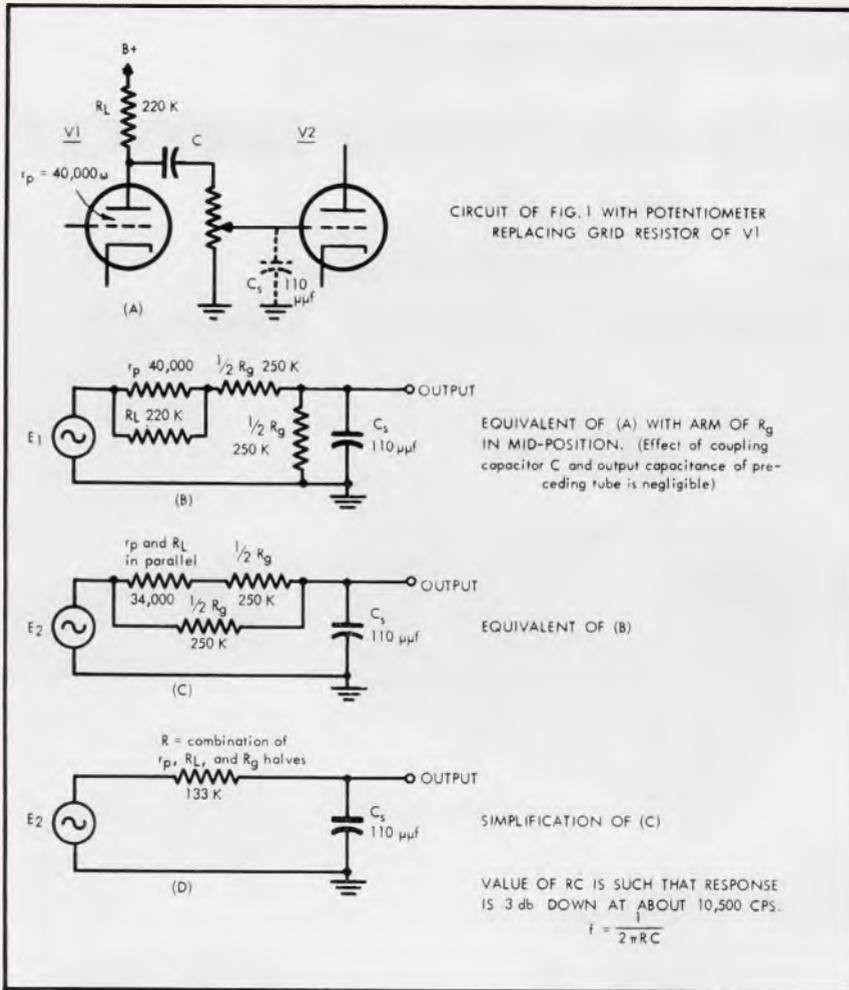

Fig. 8 Effect upon frequency response when arm of volume control is in mid-position.
Even in the case of triodes there is a frequently encountered situation which produces a high-frequency loss when the input capacitance of the following stage is on the order of 110  $\mu f$ . This occurs when a volume control appears in the circuit, as in Fig. 8, which is the same as Fig. 1 except that a 0.5-megohm pot replaces the fixed grid resistor. In Fig. 8, (B) shows the equivalent circuit when the arm of the pot is midway. As may be seen by tracing the development of (C) and (D), this proves equivalent to a 133,000-ohm resistor in series with the 110  $\mu f$  shunt capacitance. Response is 3 db down at about 10,500 cps, and therefore inadequate. On the other hand, if the gain control is close to the high or low end, then, as shown in (A) and (B) of Fig. 9, response is 3 db down at frequencies well outside the audio range, respectively 28,000 and 60,000 cps. This sort of situation is not
at all uncommon in control amplifiers, even in some of the best. The problem can be solved in substantial measure or altogether by using a volume control having a value of 0.25 megohm or less. A 0.25-megohm pot in Fig. 8 would result in response being 3 db down at about 20,000 cps when the arm is in mid-position, and about 1 db down at 10,000 cps, which is good enough for most requirements.